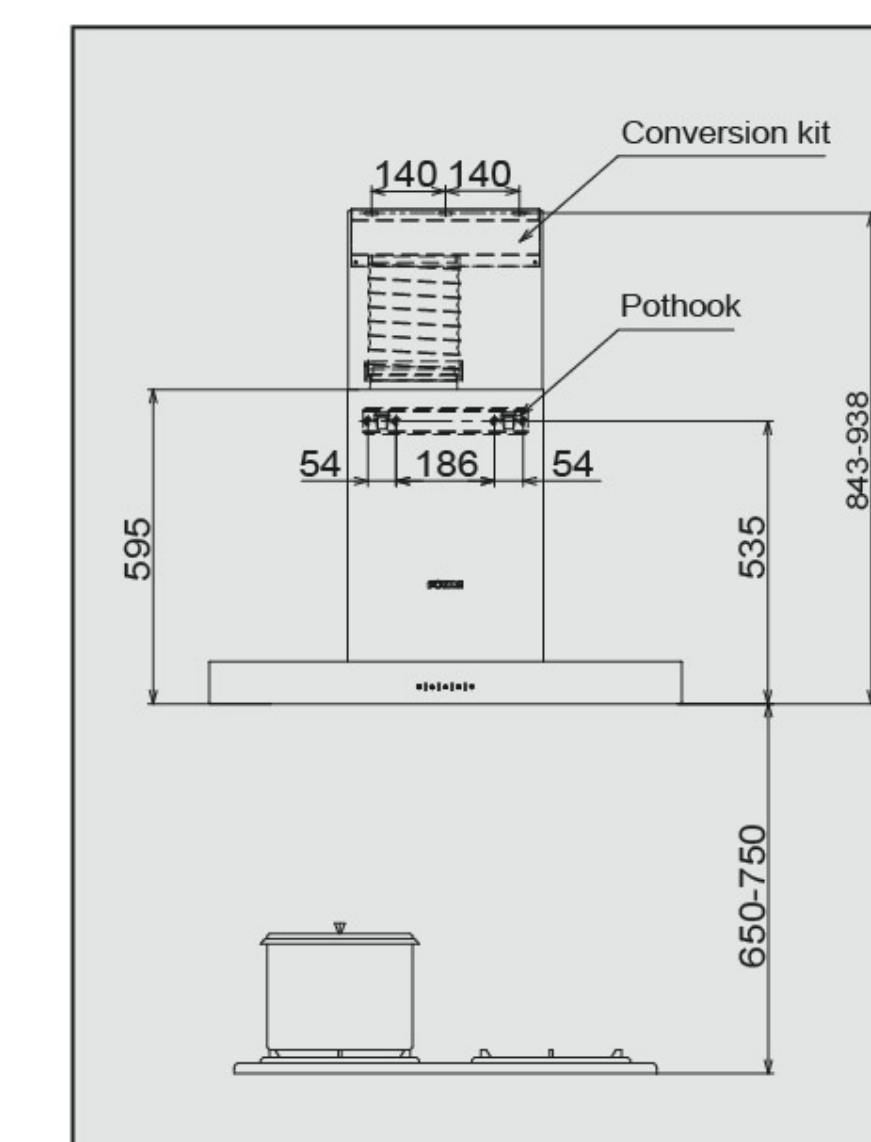

Fig.1
- Accurately locate the position on a solid wall where drilling shall be carried out via the chopping bit (Refer to Figure 1). Drill the wall and embed the expansion pipe in a secure way, fix the pothook and the components for the wind guide box and screw in the wood screw tightly. The components for the wind guide box can be strengthened and fixed onto the suspended ceiling with two ST3.9x9.5 self-tapping screws;
- Install the air duct according to Figure 1. Fix the air duct onto the components of the wind guide box with two ST3.9x9.5 self-tapping screws. Inspect the tube wall which shall not be bulged or flat;